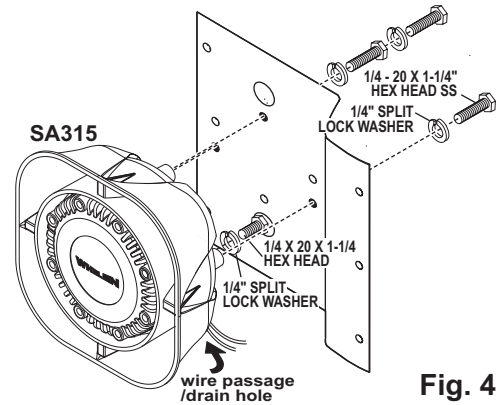

Fig. 4
3. Mount the bracket to the siren speaker (Fig. 4).